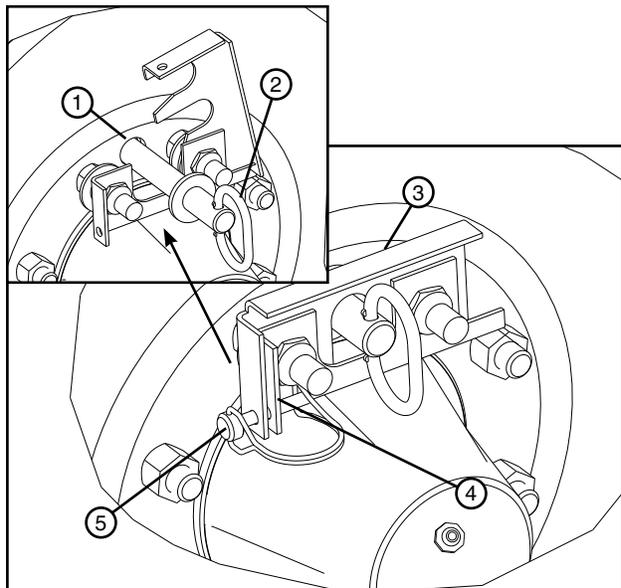

Figure 36-3 1. Hub Torque Pin Receiver 4. Retainer Clip
- Rotate the tire until the hole in the hub torque pin receiver is aligned with the hole in the axle torque arm. Install the torque pin and close the retainer plate. Secure the retainer plate to the retainer clip with the lynch pin. See figure 36-3.